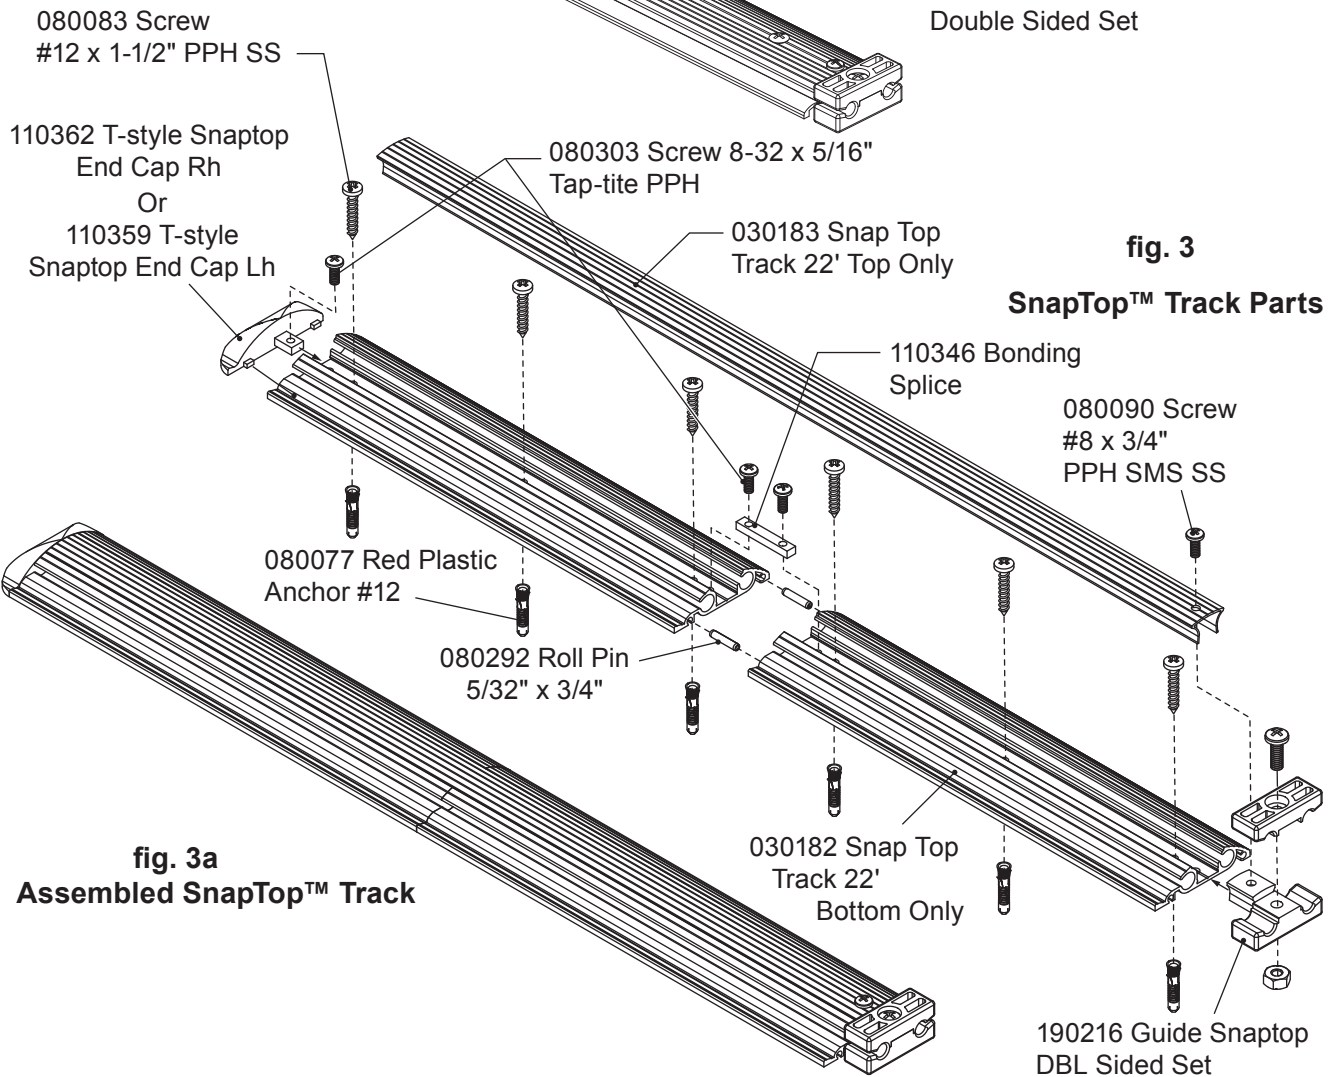

fig. 3
5.5 Install the track. (fig. 3)